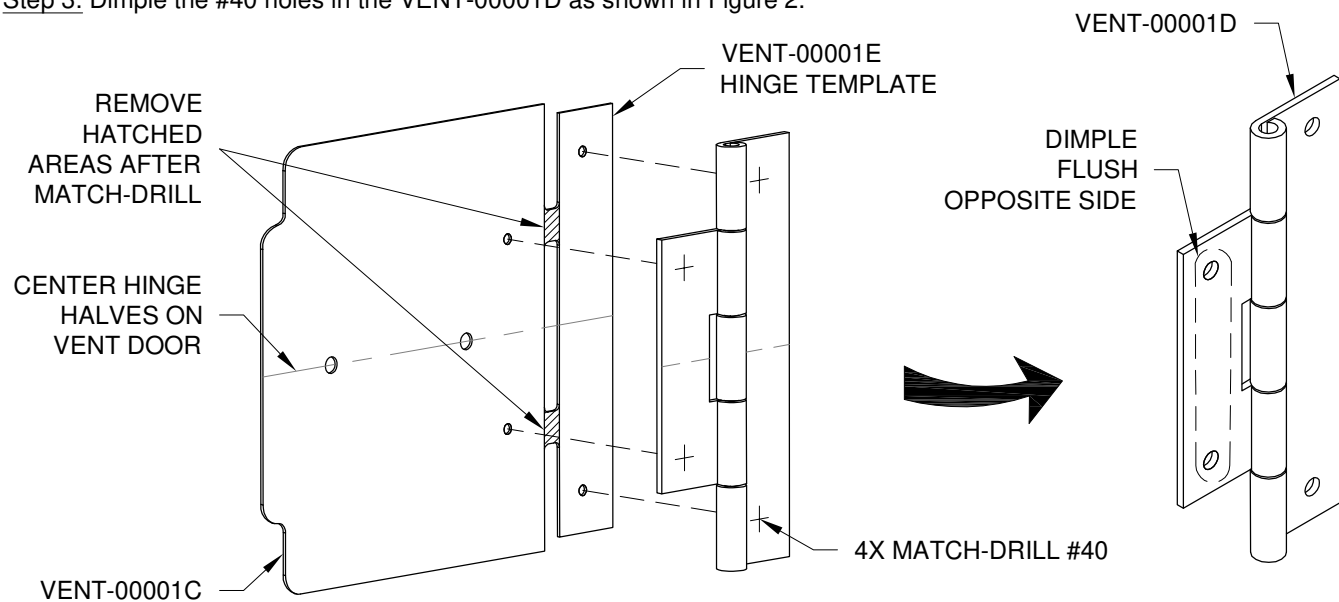

FIGURE 2: MATCH-DRILL & DIMPLE HINGES
Step 3: Dimple the #40 holes in the VENT-00001D as shown in Figure 2.
Step 4: Separate and discard the VENT-00001E template from the VENT-00001CE as shown in Figure 2.